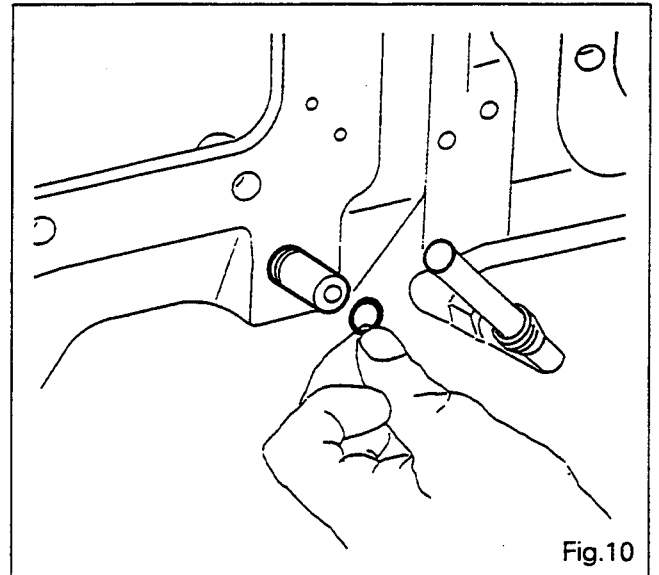

Fig. 10
20. Refit the control rod. Pull the rod as far as possible to the right. Fit a new lubricated O-ring (Fig. 10).